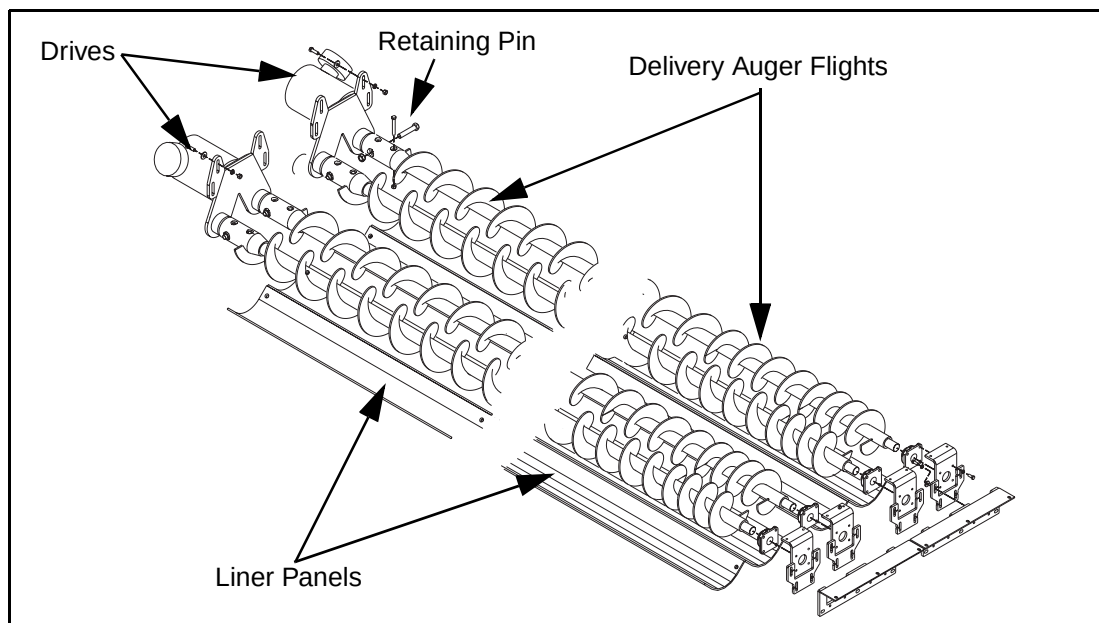

Figure 6 - 85 Replacing Delivery Auger Liners and Flights
- 3) To replace liners, remove bolts retaining liner panels and slide liners out the back of the paver. New liners can be installed in reverse order. (Figure 6 - 85)